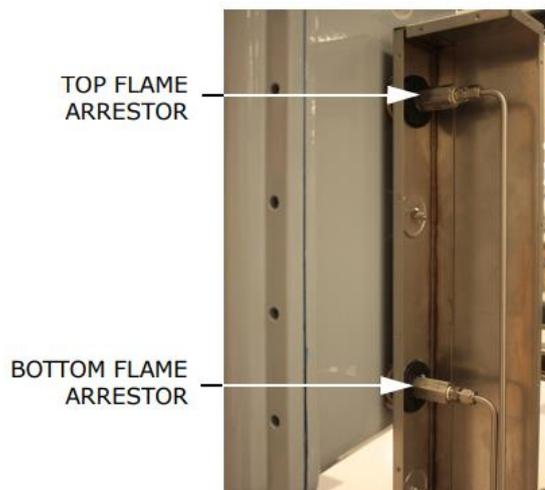

Figure 42. Flame arrester positions inside enclosure
5. Disassemble the tubing using a 9/16 in. wrench. Refer to Figure 42 below.